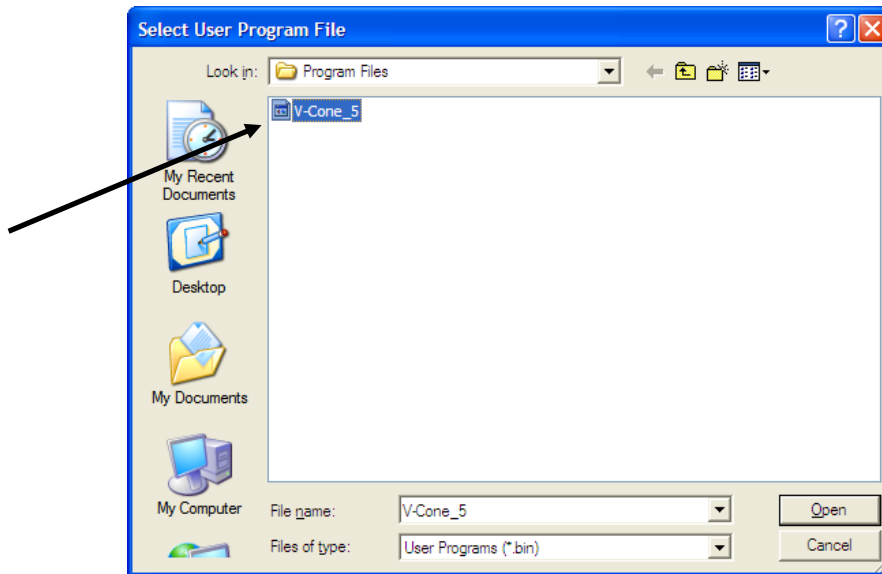

Figure 2. Select User Program File
4. Click **Browse** in the Download User Program File frame. The Select User Program File screen displays (see *Figure 2*).
5. Select the path and user program file to download from the CD-ROM. (Program files are typically located in the Program Files folder on the CD-ROM). As *Figure 2* shows, the screen lists all valid user program files with the .BIN extension: